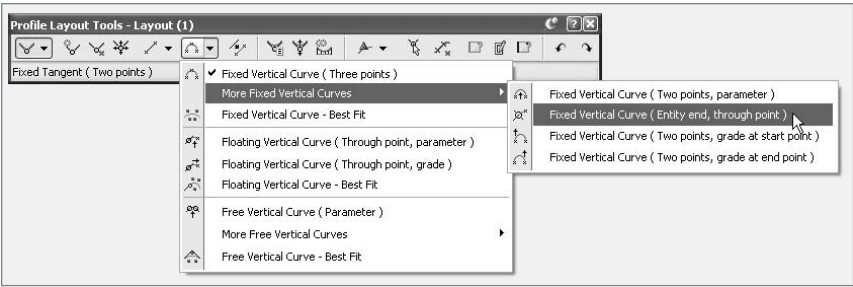

Figure A.58
13. Right-click to exit the Fixed Vertical Curve (Entity End, Through Point) command. Your drawing should look like Figure A.58.